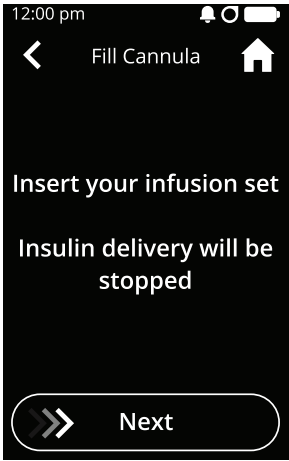

Figure 68
- b. Drag the **Next** slider to confirm that you have inserted a new insulin infusion set (see Figure 68).